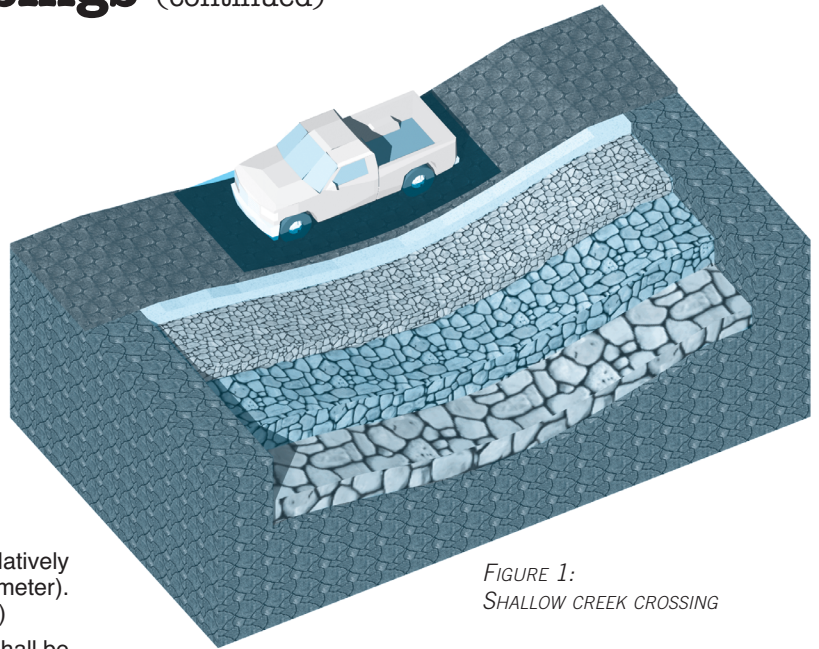

FIGURE 1:
- The excavated section should be back filled with large diameter rock (approximately 400mm diameter), and the rock fill size then gradually reduced back to a smaller diameter; small enough to allow relatively smooth traversing of small vehicles (say 100mm diameter). The rock should be compacted into place. (see figure 1)